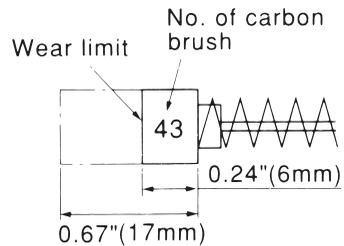

Fig. 4
4. Inspecting the carbon brushes(Fig. 4)
NOTE : Use HITACHI carbon brush No.43 indicated in Fig. 4.